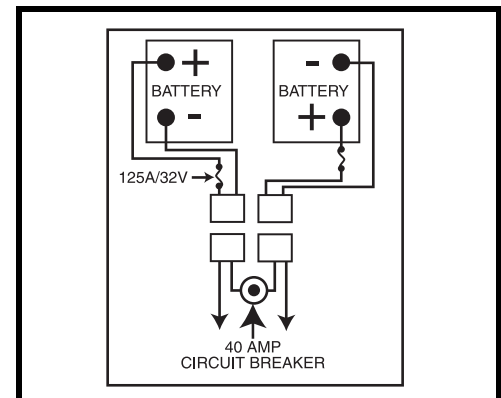

Figure 14. Battery Wiring Diagram
- Place a new battery in each battery box. Face the battery terminals toward the seat post. **See figure 14.**